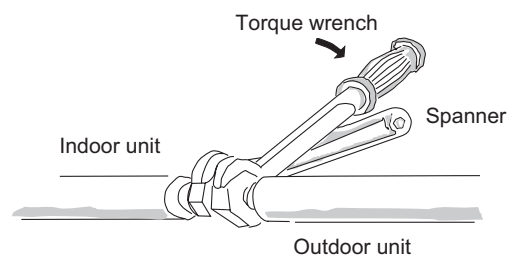

Fig. 2-282
- (1) Tightly connect the indoor-side refrigerant tubing extended from the wall with the outdoor-side tubing.
- (2) To fasten the flare nuts, apply specified torque as at right:
- When removing the flare nuts from the tubing connections, or when tightening them after connecting the tubing, be sure to use 2 adjustable wrenches or spanners as shown. (Fig. 2-282)